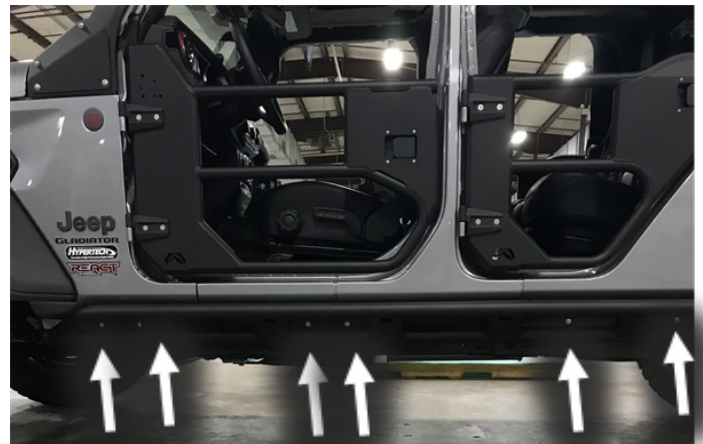

Figure 3
5. Loosely install in six (6) places along the pinch weld seam, one (1) 5/16" yellow zinc hex bolt, two (2) 5/16" yellow zinc flat washers, one (1) yellow zinc lock washer and one (1) yellow zinc hex nut. (50191-HW) (Figure 3)
6. Using a 13mm socket wrench, further snug up the four (4) Oem bolts. (Figure 3)
7. Using a 10mm wrench, fully reinstall the Oem front fender bolt. (Figure 3)
8. Using two (2) 1/2" socket wrenches, fully tighten down the five (5) sets of 5/16"-18 x 1.25" bolts stacks along the pinch weld seam. (Figure 3)